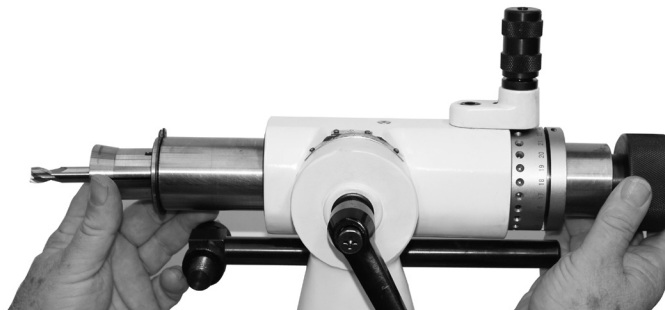

Fig.2
- (2) Select the suitable 5C collet to hold the shank of the End Mill or Slot Drill.
- (3) Put 5C collet into the sleeve along the key way, and then rotate the sleeve to lock it firmly as Figure 2.